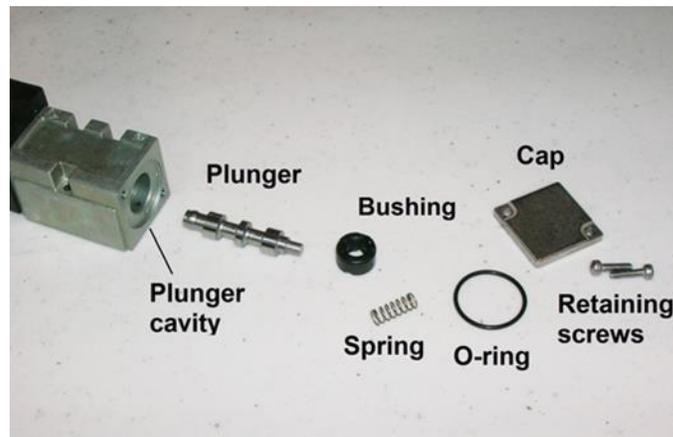

Figure 5-3: Solenoid Parts
4. Carefully remove the spring, the O-ring, the bushing, and the plunger (Figure 5-3).